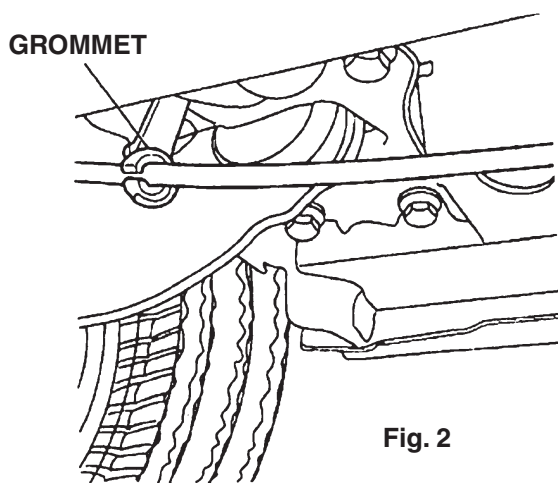

Fig. 2
**Chevrolet Malibu Sedans...** Owners of 2005–2007 Chevrolet Malibu sedans equipped with rear drum brakes may complain of a squeak or creaking noise coming from the rear of the vehicle. The noise is more pronounced during slow speeds, and especially over bumps during wet conditions. GM says the condition may be caused by the parking brake cables rubbing or slip-sticking on their retainer grommet (see Fig. 2). The solution is to replace the existing white parking brake cable grommets with revised Teflon grommets (GM #15807015), which are black in color.